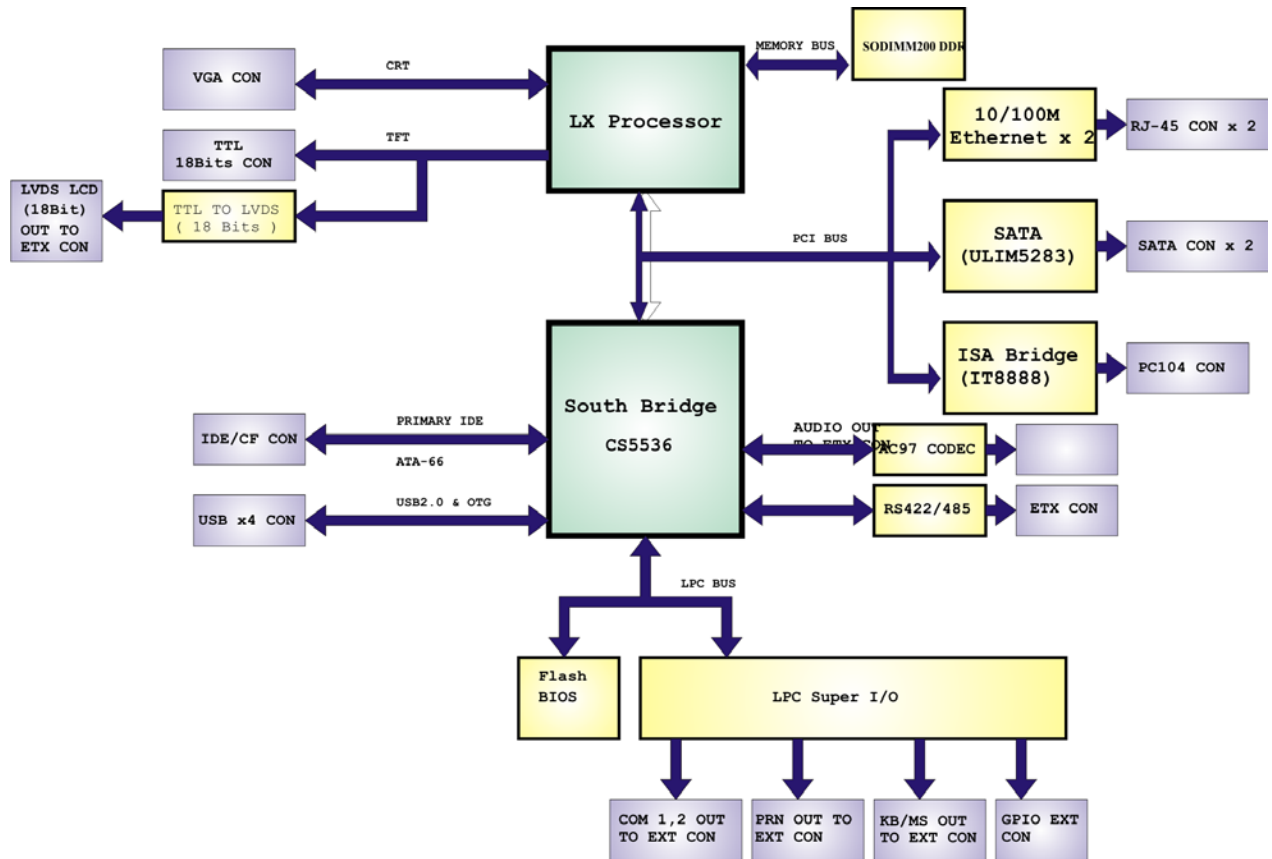

Figure 2-3: Data Flow Block Diagram
**Figure 2-3** shows the data flow between the two on-board chipsets and other components installed on the motherboard and described in the following sections of this chapter.